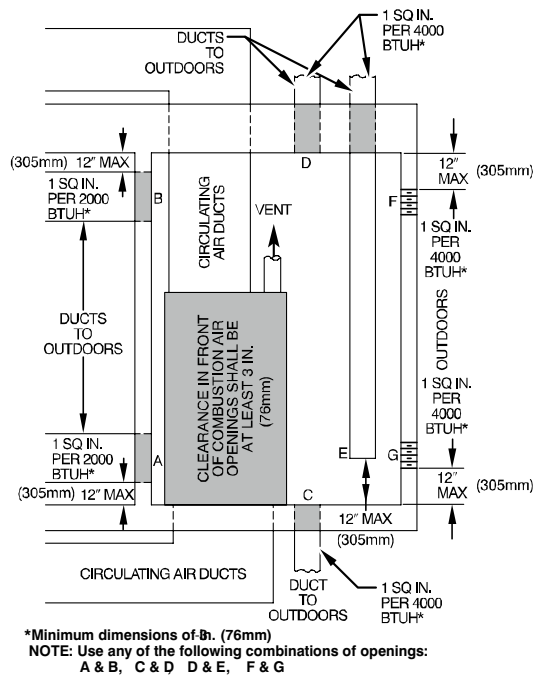

Fig. 6 – Air for Combustion, Ventilation, and Dilution for Outdoors
2. Fig. 6 illustrates how to provide TWO OUTDOOR OPENINGS, one inlet and one outlet combustion and ventilation air opening, to the outdoors.
- b. Size openings and ducts per Fig. 6 and Table 4.
- c. TWO HORIZONTAL DUCTS require 1 sq. in. (645 sq. mm) of free area per 2,000 BTU_h (1,100 mm²/kW) of combined input for all gas appliances in the space per Fig. 6 and Table 4.
- d. TWO OPENINGS OR VERTICAL DUCTS require 1 sq. in. (645 sq. mm) of free area per 4,000 BTU_h (550 mm²/kW) for combined input of all gas appliances in the space per Fig. 6 and Table 4.
- a. 1 sq. in. (645 sq. mm) of free area per 3,000 BTUh (734 mm²/kW) for combined input of all gas appliances in the space per Fig. 6 and Table 4.